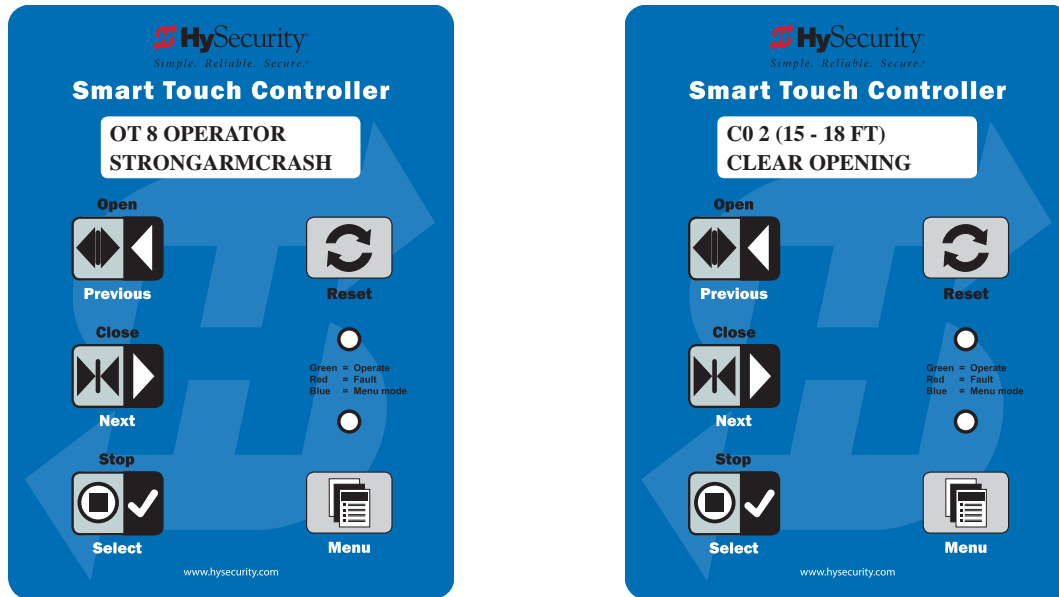

Figure 16. Example of Operator Status Display
The type of information that may scroll across the display includes: interlocked or sequenced gate (if applicable), operator type (OT), gate handing (RH or LH), clear opening (CO), Usage Class (UC), buss voltage, and cycle counter. See Figure 16.